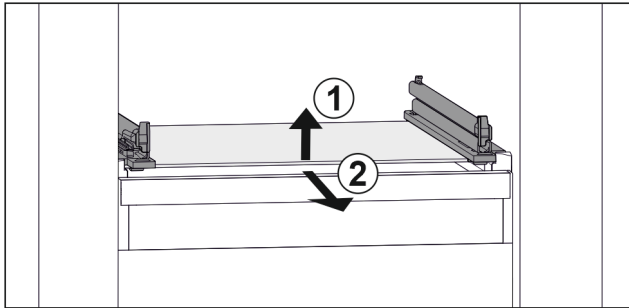

Fig. 41 Example illustration of glass shelf
- ▶ Lift glass shelf at the front. Fig. 41 (1)
- ▶ Take out glass shelf to the front. Fig. 41 (2)